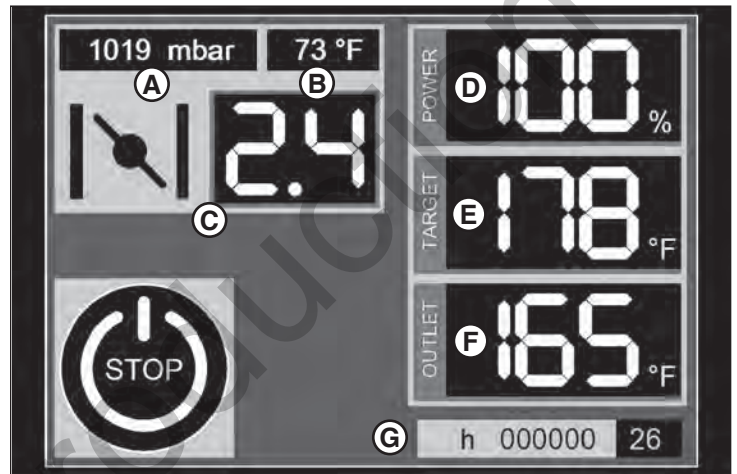

Figure 29
8. Once the fan has started, the RUN screen will appear (Figure 29). The following information will be displayed:
- (A) Barometric pressure in millibar.
- (B) Ambient temperature in degrees Fahrenheit.
- (C) Damper setting
- (D) Efficiency of the heater unit in percentage.
- (E) Target outlet temperature in degrees Fahrenheit.
- (F) Actual outlet temperature in degrees Fahrenheit.
- (G) Total hours on the heater unit.